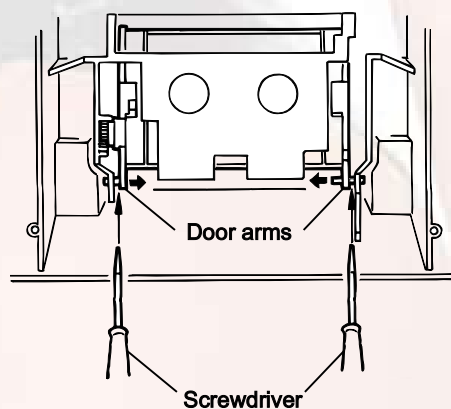

Fig.5
■ Removing the cassette door (See Fig.5 and 6)